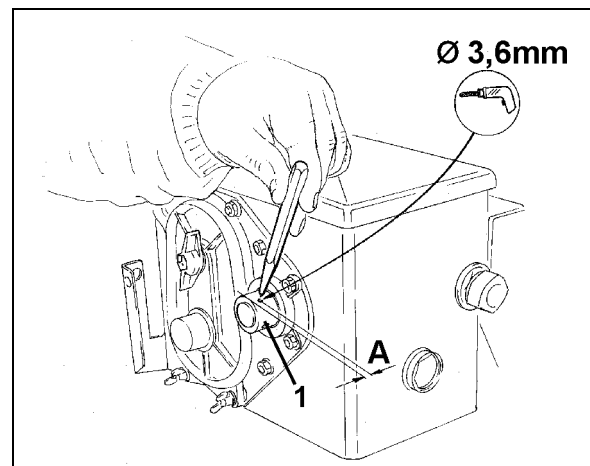

Fig. 10
3. a hole has to be drilled ($\varnothing 3.6$ mm) into the hollow shaft (Fig. 10/1).
The distance **A** (see Fig. 10) from the edge of the hollow shaft towards the centre of the hole is 5 mm. Before drilling a hole, mark the centre by a punch.